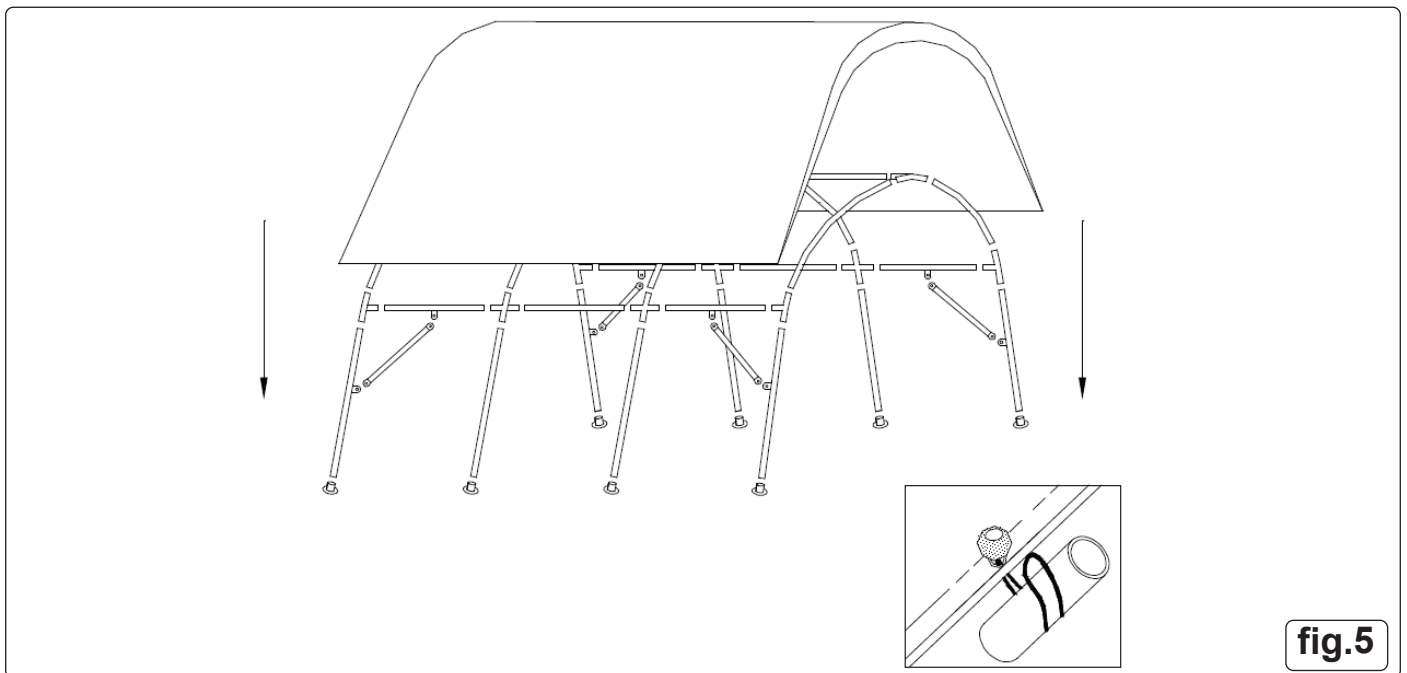

fig.5
- 4.2.6. Close the velcro straps around the frame. Use the elastic toggles, passed through the eyelets and round the frame, to secure the cover to the frame, see fig.5.